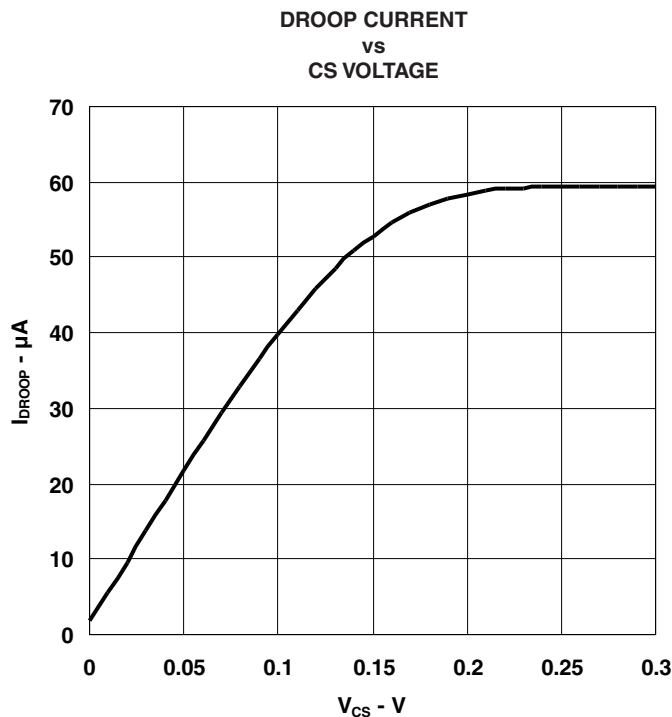

Figure 6.
(1)  $I_{DROOP}$  is relatively linear vs  $V_{CS}$  and is typically 40  $\mu A$  at  $V_{CS} = 100$  mV. Above  $V_{CS} = 100$  mV,  $I_{DROOP}$  becomes nonlinear, rolls off, and saturates to approximately 50  $\mu A$  to 65  $\mu A$  when  $V_{CS} > 200$  mV (see Figure 6). Thus, above 100 mV, Equation 9 is not accurate.